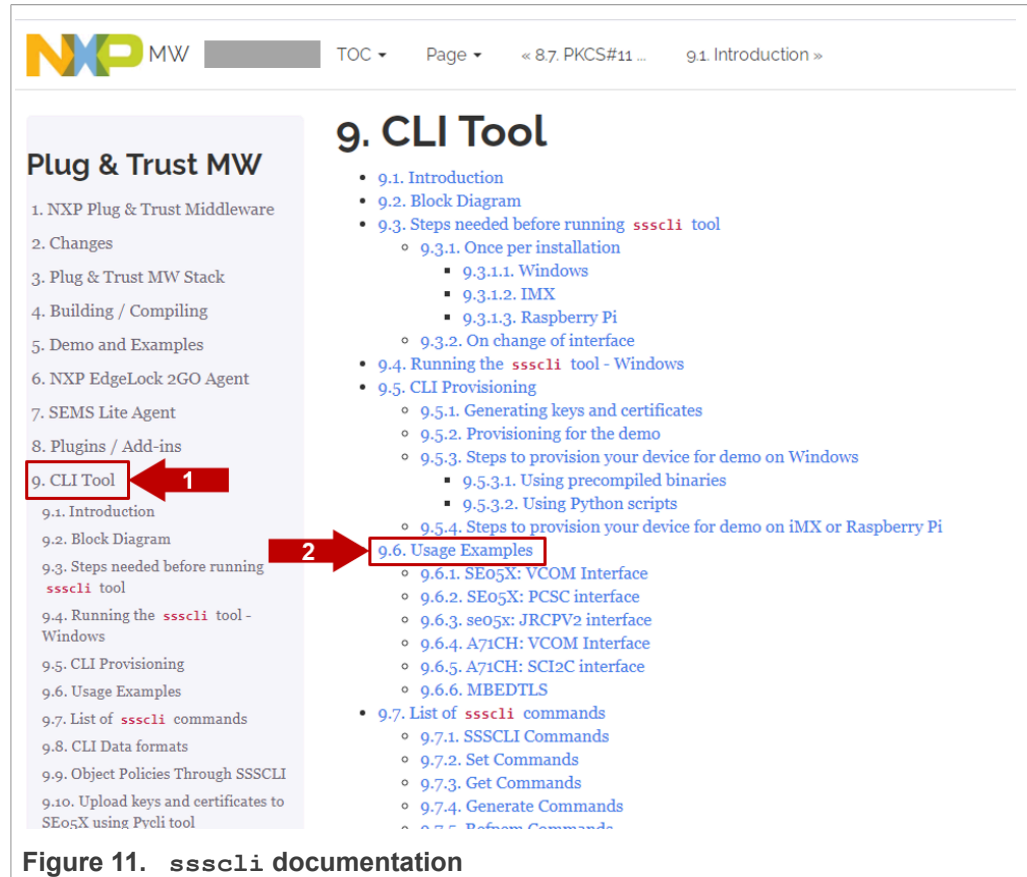

Figure 11. ssscli documentation
- 5. Click on Section 9 CLI tool and then click on the Section 9.6 Usage examples as shown in Figure 11